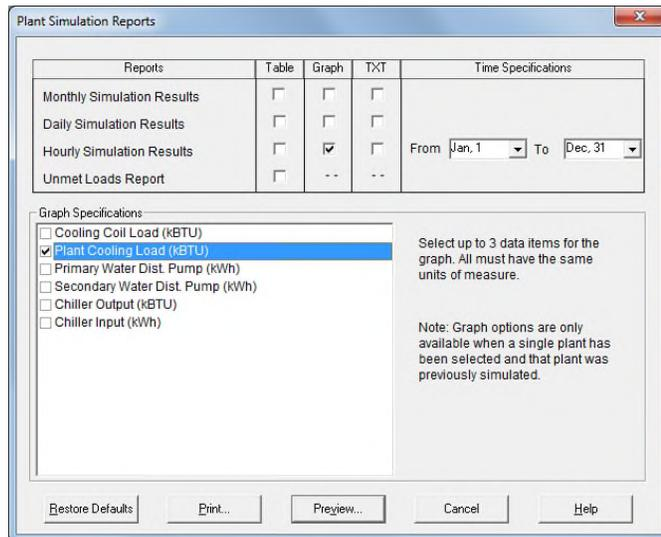

Figure 15.
- c. For the chiller plant request a graph of hourly simulation results for January 1 thru December 31. Choose the “Plant Cooling Load” item as the data to be graphed (Figure 15). This will plot the total hourly cooling load imposed on the plant for the full year.